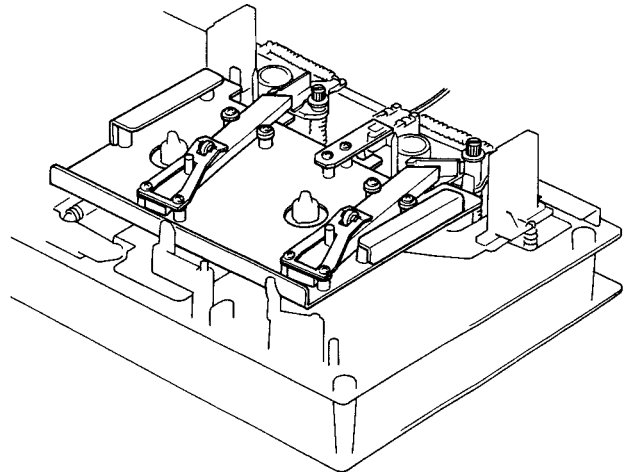

Fig. 4.9
- After completion of the Head Base Stroke Adjustment, check to insure accuracy of the Head Base Stroke Adjustment in play mode. If the above are inaccurate, items (1) and (2) will have to be repeated till satisfactory results are obtained.
Remove Head Mount Base Ass'y referring to item 2.30. Refer to Figs. 4.9 and 4.10.
(1) Supply Tape Guide Height Adjustment
(2) Take-up Tape Guide Height Adjustment